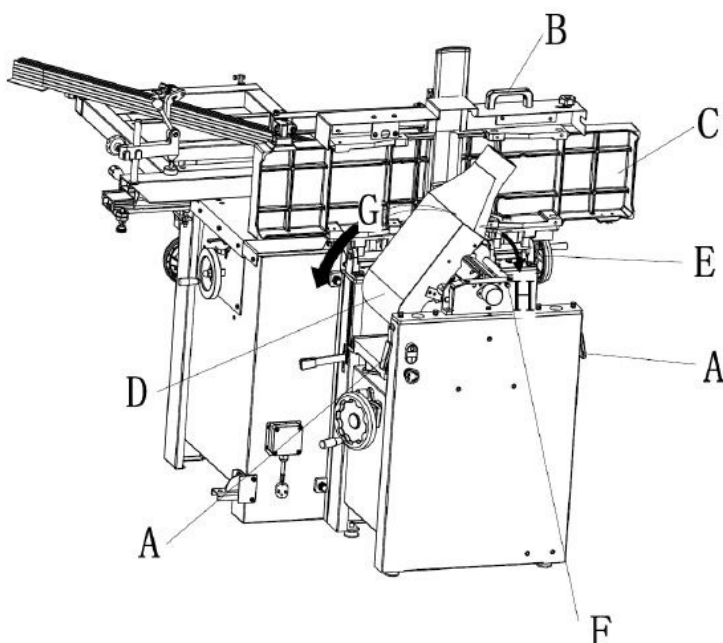

Fig.6-23: Conversion to thickness planer function 2
- When raised, the table should be in the vertical position, as shown in C, Fig. 6-23. The lock (E, Fig. 6-23) must be engaged to prevent the table from accidentally falling forward.
The following explanations refer to Fig. 6-23.